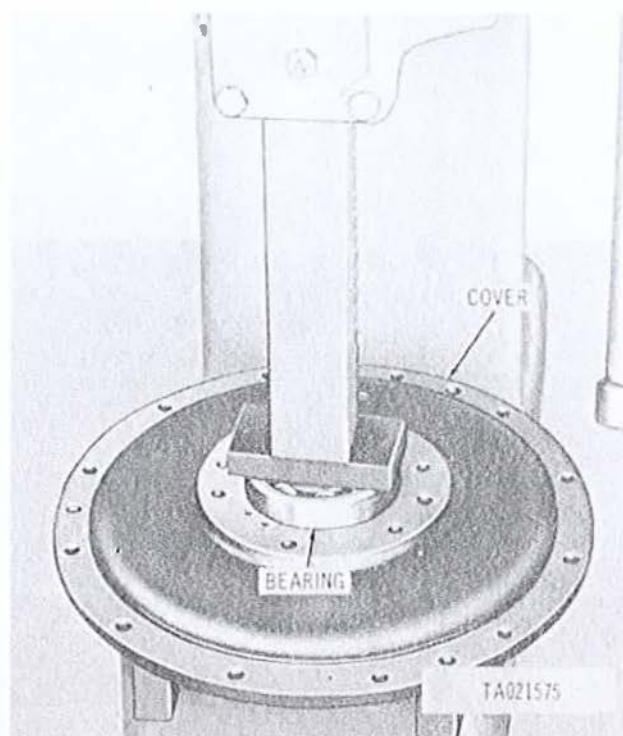

Figure 3-229. Pressing clutch upper ball bearing into fan drive housing.
(9) Position fan drive housing cover (fig. 3-229) on arbor press using suitable blocks for support and press clutch upper ball bearing into cover.